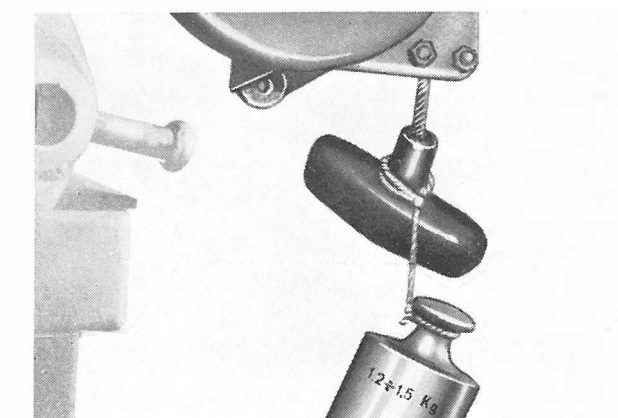
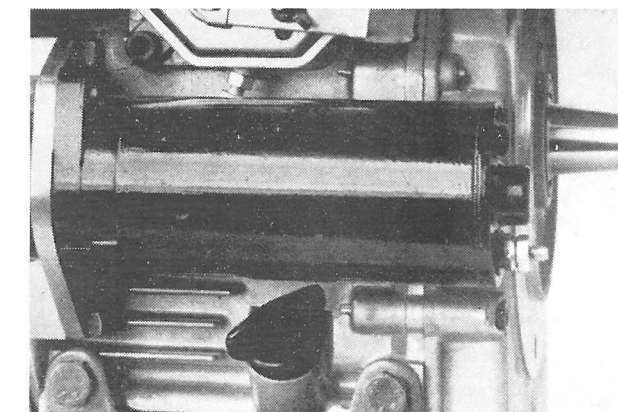

Fig. 47
Fig. 48
La tension du lanceur automatique avec la cordelette complètement enroulée doit être $1,2 \div 1,5$ Kg. après avoir dépassé le premier point de friction (Fig. 47).
- 1) Démarrage électrique par démarreur et alternateur recharge batterie (Fig. 48).
Check helical return springs (2) (Fig. 48) and replace them if engaging dogs (3) do not slide out. When the rope (6) breaks, dismantle the pulley (5), after following procedure to release spiral spring (7) tension has been adhered to:
- place the rope in the pulley groove (5);
- let the pulley turn back until spring (7) has lost tension completely;
- remove pulley and replace rope (6) bending in the rope ends to fit the metal ring, so that pulling tension is exerted only on the housing sides and not on cable passage hole;
- assemble pulley (5) inserting spiral spring (7) terminal into its socket;
- restore tension of spiral spring (7) by rotating pulley (5) $2 \div 3$ turns with completely unwound rope.
Rewind starter tension with completely wound rope must be $1,2 \div 1,5$ Kg. after initial friction has been taken up (Fig. 47). Replace spiral spring (7) if found broken.
- 1) Electric starting with alternator for battery recharge and starter motor (Fig. 48).
Bei völlig aufgewickeltem Seil muss die Spannung nach Überwindung der ersten Reibung $1,2 \div 1,5$ kg betragen (Abb. 47).
- 1) elektrisches Anlasssystem mit Anlassmotor und Drehstrom-Generator zur Batterieaufladung (Fig. 48).